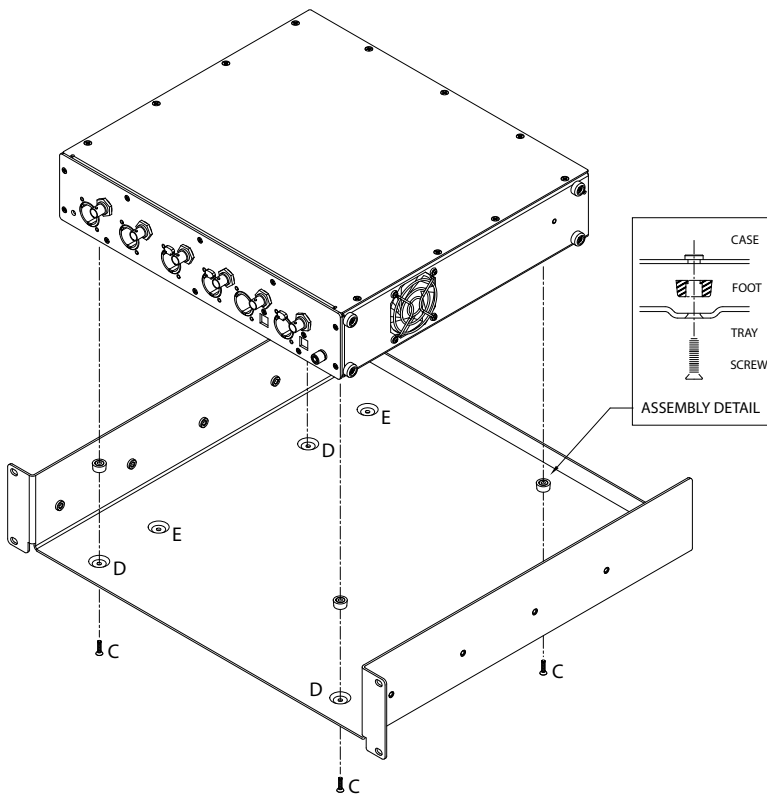

Figure 2. Mounting APx515 securely to rack shelf.
Step 1. Using the 4 10-32 5/16" screws (B), mount the shelf in a standard 19" equipment rack.
Step 2. Set the APx515 instrument on the shelf, being sure that the rubber feet sit in the indentations in the shelf. See Figure 2. Use indentations (D) for flush mounting, or indentations (E) for recessed mounting.
Mounting Option II: Secured shelf mounting (Figure 2)